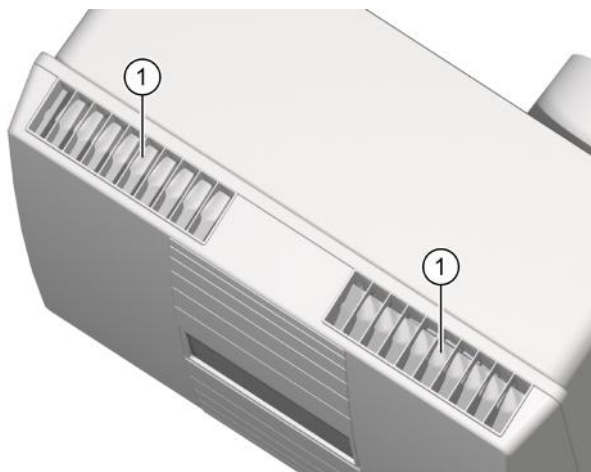
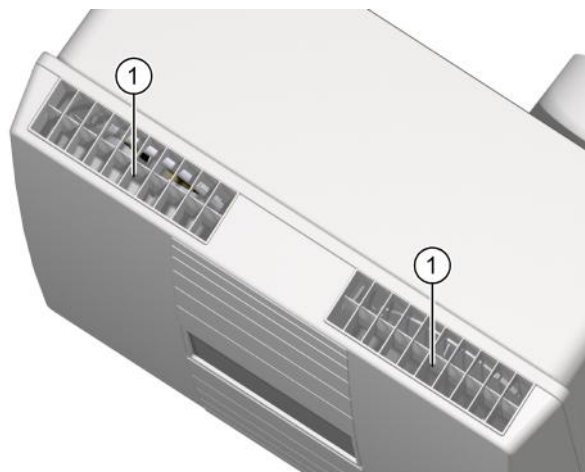

Fig. 11: Air flaps closed
Fig. 12: Air flaps open
- ▶ Check the position of the air flaps (see Fig. 11 and Fig. 12) on the extract air and supply air openings.
- Both air flaps will be closed if the ventilation unit is switched off or without power (see item 1 in Fig. 11).
- Both air flaps open when you switch on (see item 1 in Fig. 12).